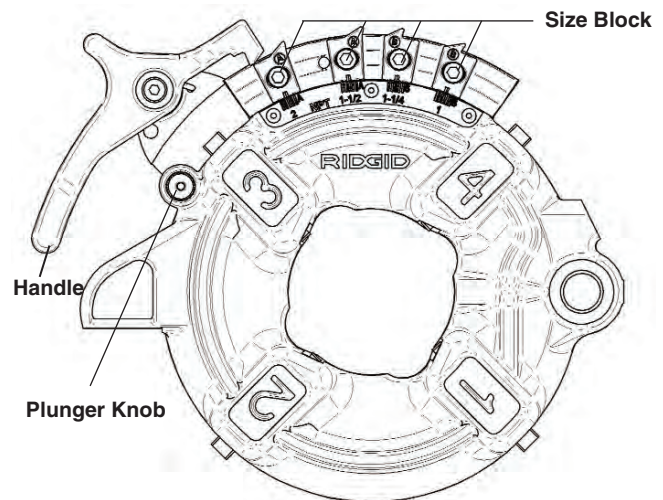

Figure 10 – 816/817 Semi-Automatic Die Head
Semi-automatic die head (*Figure 10*) – When the end of the pipe being threaded is flush with the end of the number 1 die, hit the handle for the dies to release the pipe.
The 816/817 Semi-Automatic Die Head (Figure 10) for right hand threads requires four sets of dies to thread pipe ranging from $\frac{1}{8}$ " through $1\frac{1}{2}$ ". One set of dies is required for each of the following pipe size ranges: ($\frac{1}{8}$ ", ($\frac{1}{4}$ " and $\frac{3}{8}$ "), ($\frac{1}{2}$ " and $\frac{3}{4}$ ") and (1" through $1\frac{1}{2}$ "). Bolt threading requires a separate set of dies for each bolt size.
1. Depress handle so that cam plate rests (Figure 10 – Model 816/817 Semi-Automatic Die Head) against the stop (as shown).